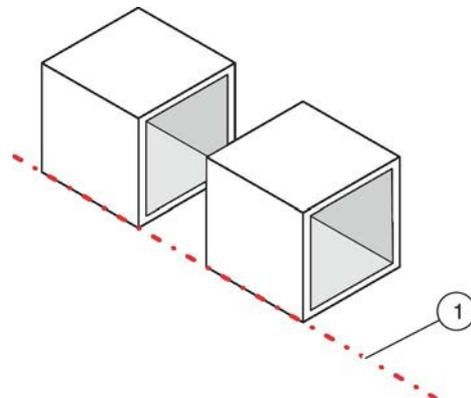

Fig. 15: Aligning casing units
- ▶ Align the casing units so that they are flush with one another (Fig. 15 /1).